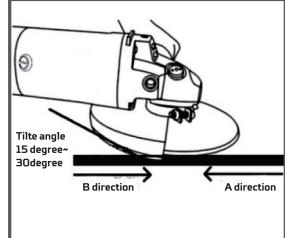

Fig 7
2. Generally speaking, please keep the grinding and cutting part of 15 to 30 degree with the surface of processing object. (Fig 7)